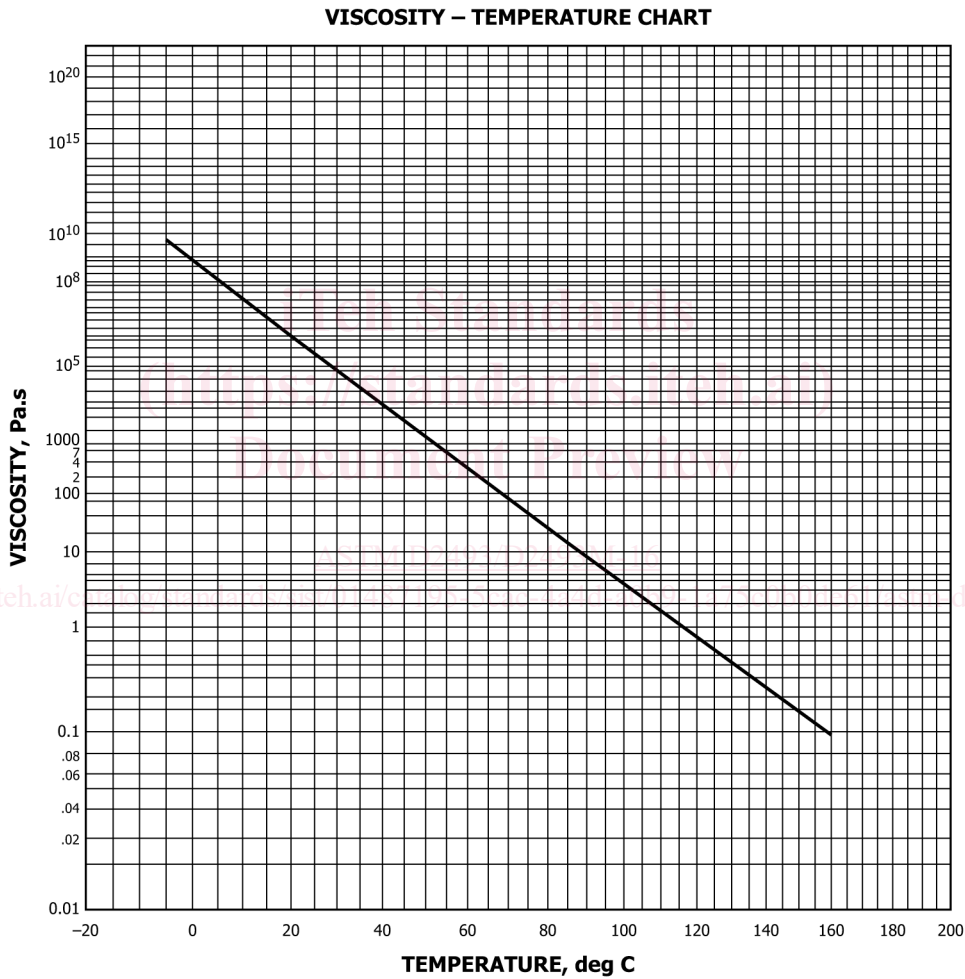

FIG. 2 Viscosity-Temperature Chart for Asphalts-Asphalt Binders on Which a Typical Experimental Curve Has Been Plotted
4.2 For Fig. 2, the chart coordinates are logarithm of the logarithm of the viscosity in centipoise as the ordinate, and logarithm of the absolute temperature in degrees Rankine (degrees F + 459.7) as the abscissa. However, viscosity in poise, and the temperature in degrees Fahrenheit is shown in the chart for convenience.
4.2 Fig. 2 shows an example viscosity-temperature chart. For Fig. 2, the chart coordinates are logarithm of the logarithm of the